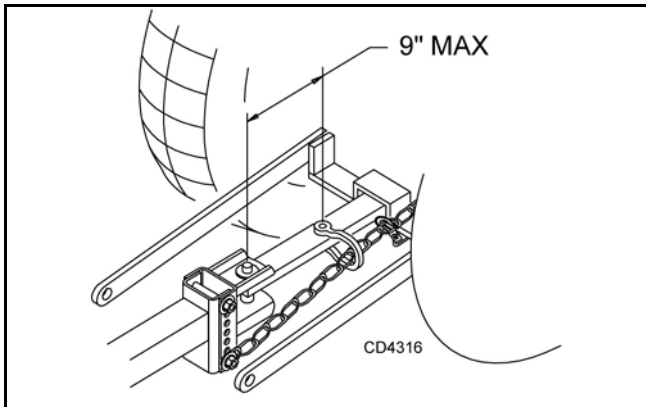

Figure 1. Tow Chain Installation
3. Attach the safety chain to the tractor as shown in Figure 1.